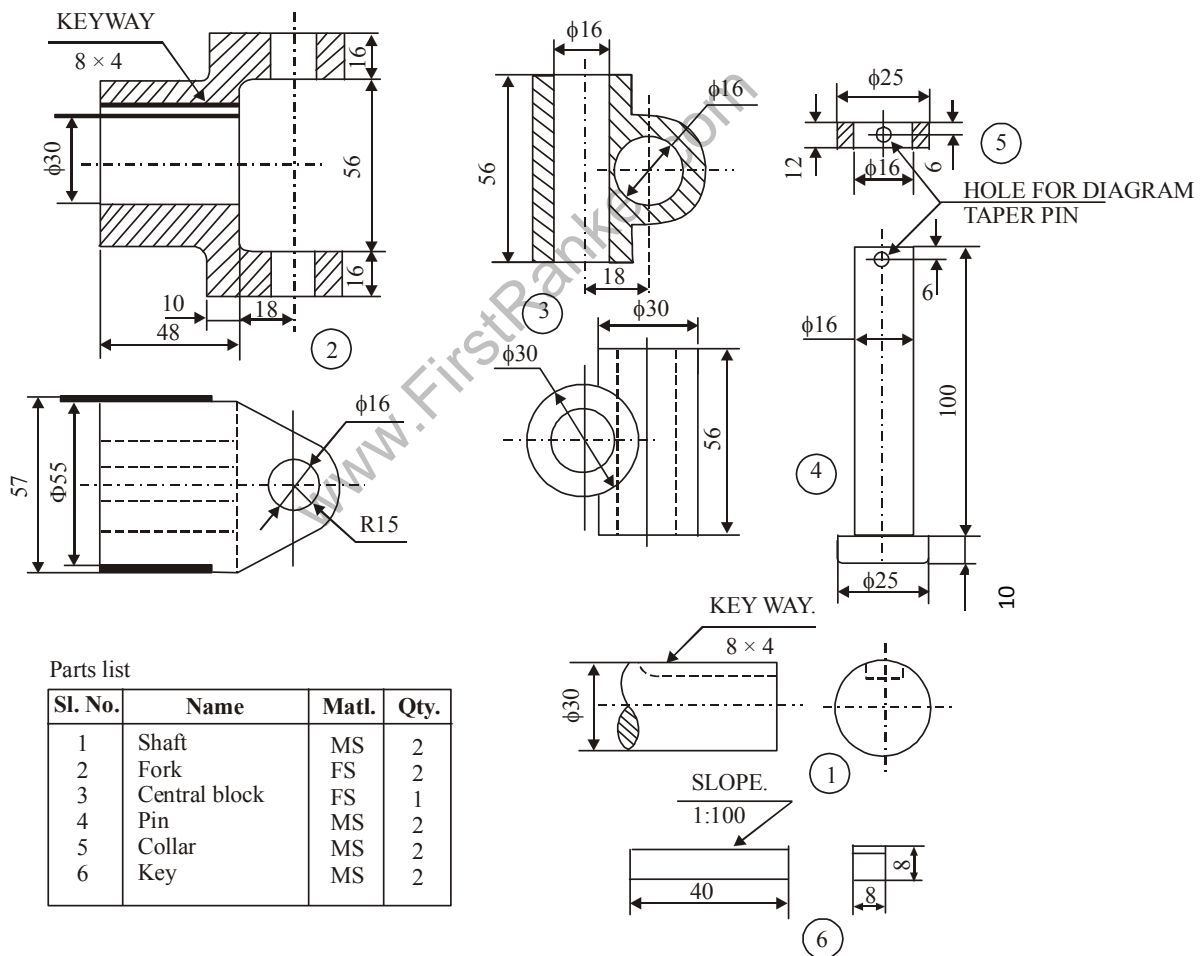

Fig. 1. Universal Coupling
7. Assemble the parts of universal coupling and, shown in Fig. 1 and draw the sectional front and the right-side view.